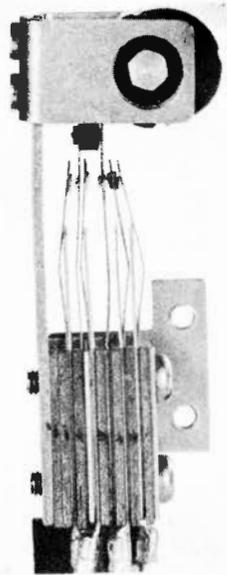

FIG. 6A—CONTROL ON LOW
- Figs. 6A, 6B, and 6C show positions of contacts.